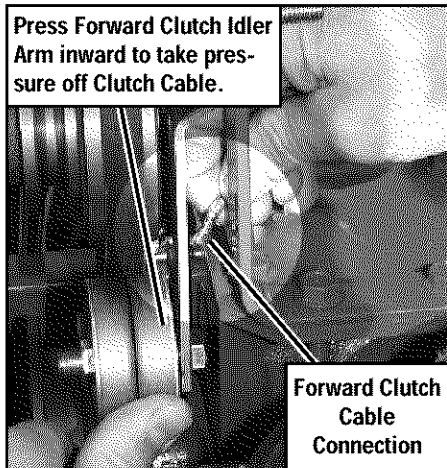

Figure 5-17
- Pull the bottom half of the belt out of the housing and let it hang outside the unit (B).
4. On left-side of unit, disconnect the forward clutch cable from the forward clutch idler arm bracket (Figure 5-17). Note the hole from which you disconnect the cable. It is important to reconnect the cable to the same hole.
5. Reconnect the forward clutch cable to the correct hole in the idler arm bracket, as shown in Figure 5-17.